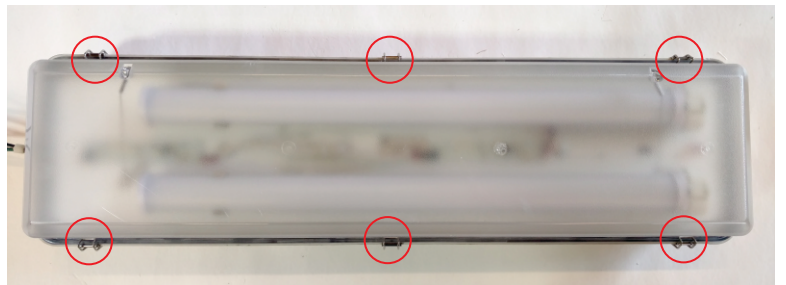

Figure 11
15. Completed luminaire should look like figure 11.